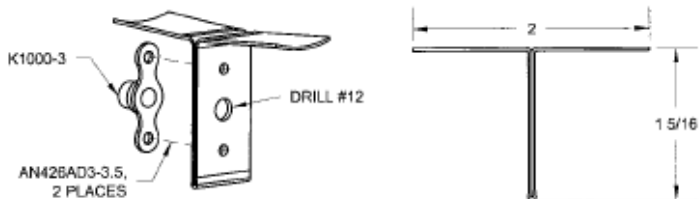

FIGURE 1: MAKING THE HANGER
Step 1: Fabricate the VA-189B Hanger from crating strap per the dimensions given in Figure 1.
Step 2: Drill a #12 hole in the center of the vertical flange of the VA-189B Hanger. Use a AN3 bolt to align a K1000-3 nutplate with the #12 hole. Orient the nutplate as shown in Figure 1. Match-Drill #40 the two nutplate attach holes using the nutplate as a drill guide.
Step 4: Rivet the nutplate to the VA-189B Hanger per the callouts in Figure 1.